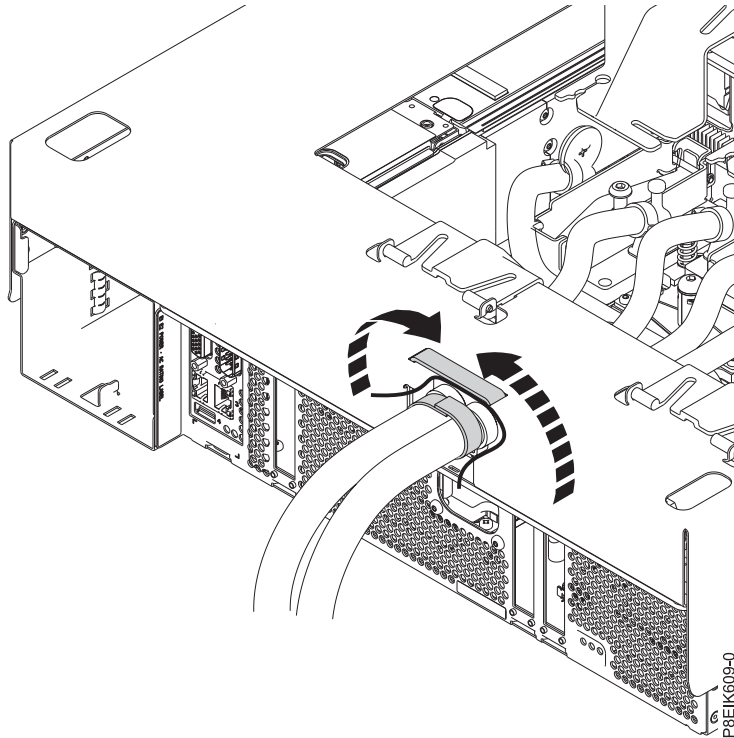

Figure 13. Fastening the water hoses to the carrier
9. Using the closed-loop fasteners, secure the water hoses to the cold plate installation carrier as shown in Figure 13 on page 11.